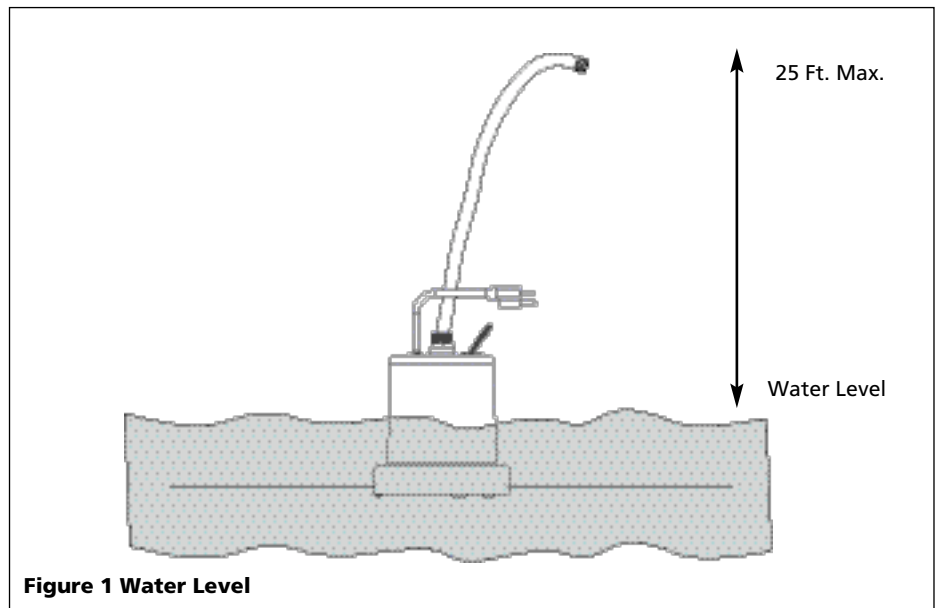

Figure 1 Water Level
- d. Plug power cord into a grounded 120 volt AC power outlet. If pump operates correctly proceed to step #3. If pump does NOT operate, unplug power cord and proceed to maintenance guideline item 4 in this section.
- b. Verify pumping height does NOT exceed 25 feet (See Figure 1). If pumping height is greater than 25 feet, this pump will NOT work.